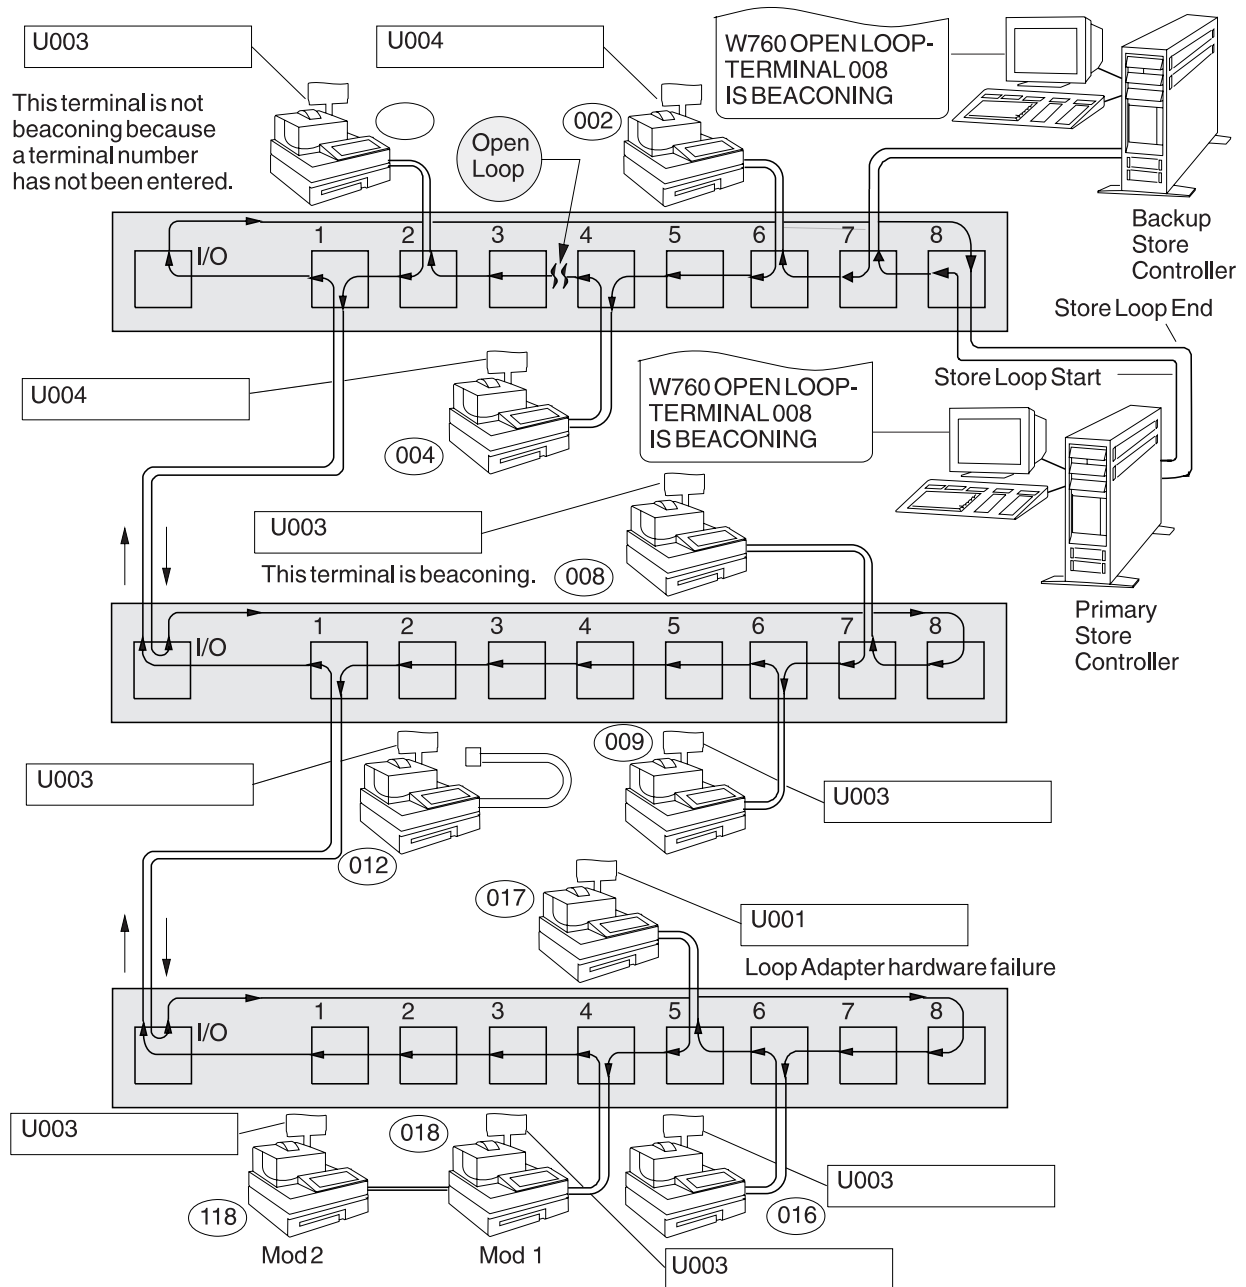

Figure 23. Store Loop with an Open Condition
Figure 23 on page 449 represents a typical store loop using the IBM Loop Wiring Concentrator. Your store loop might not be wired like this, but the position of your terminals on the loop and their relationship to the store controller will be similar. The terminal numbers are shown in numeric order, but they can be put in any order on your store loop. The store controller transmits data to the first Mod1 down-loop on the store loop. This Mod1 receives the data and passes it to the next Mod1 down-loop. This continues with each Mod1 receiving data from the Mod1 immediately up-loop from its position, and passing it on to the next Mod1 down-loop. The last Mod1 down-loop passes the data back to the store controller.
Obtain a store loop layout chart, see Figure 23 on page 449, containing:
- If it is a Mod2 terminal, go to its partner Mod1 terminal. A 4683 Mod2 terminal displays the status of its partner Mod1. See Figure 23 on page 449.
- Use the store loop layout chart, see Figure 23 on page 449, to determine if the terminal number of this terminal is the same as the terminal number in message W760.